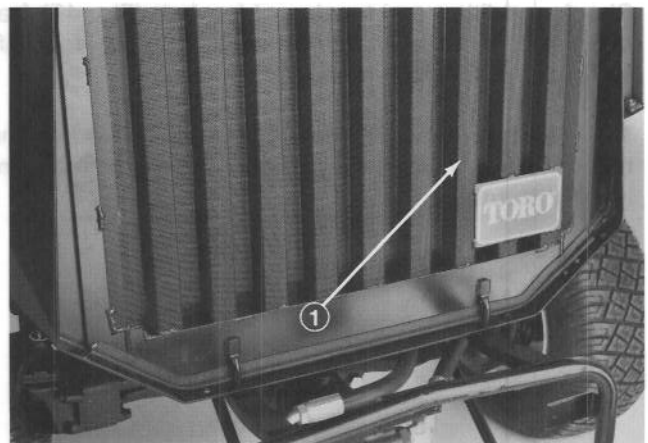

Figure 43
ENGINE COOLING SYSTEM (Fig. 43)
B. Unscrew knobs and remove rear screen (Fig.43). Clean screen thoroughly.